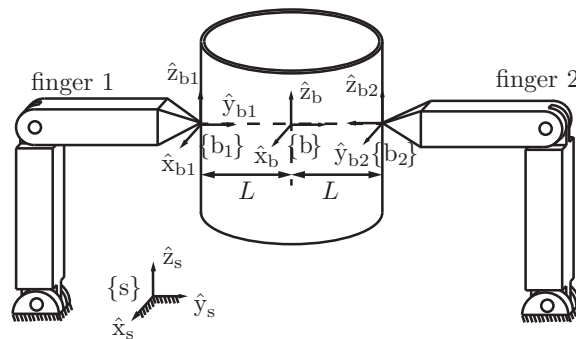

Figure 2: Two fingers grasping a can.
4. (2/10) Figure 2 shows two fingers grasping a can. Frame  $\{b\}$  is attached to the center of the can. Frames  $\{b_1\}$  and  $\{b_2\}$  are attached to the can at the two contact points as shown. The force  $\mathbf{f}_1 = (f_{1,x}, f_{1,y}, f_{1,z})$  is the force applied by fingertip 1 to the can, expressed in frame  $\{b_1\}$ . Similarly, the force  $\mathbf{f}_2 = (f_{2,x}, f_{2,y}, f_{2,z})$  is the force applied by fingertip 2 to the can, expressed in frame  $\{b_2\}$ . Assume that the system is in static equilibrium.